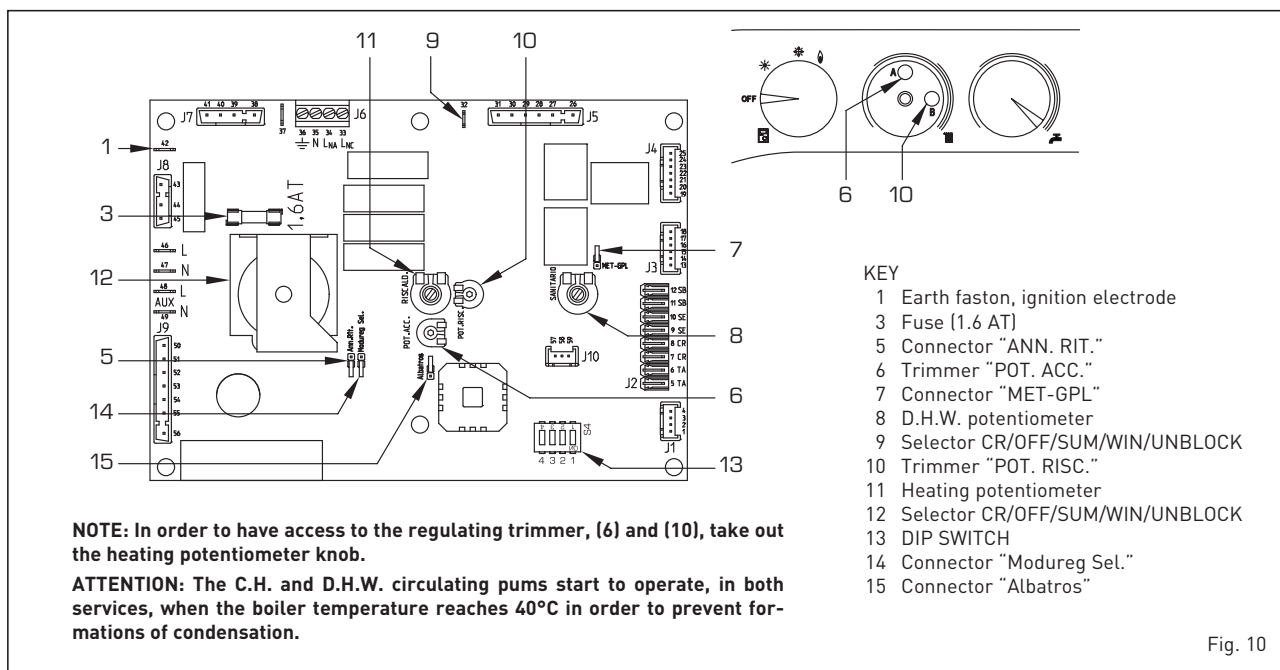

Fig. 10
- **Trimmer "POT. RISC."** (10 fig. 10)
- **Trimmer "POT. ACC."** (6 fig. 10)
- **Connector "MET-GPL"** (7 fig. 10)
- **Connector "ANN. RIT."** (5 fig. 10)
- **DIP SWITCH** (13 fig. 10)
- **Connector "Modureg Sel."** (14 fig. 10)
- **Connector "Albatros"** (15 fig. 10)